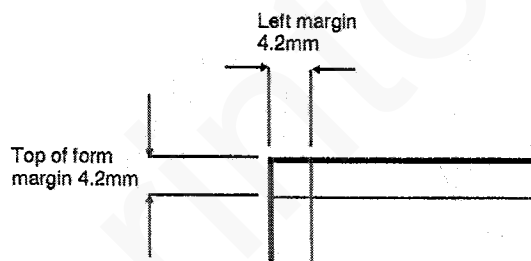

Figure 2. Measuring left and top margins
7. (Figure 2) Measure the left margin and top of form margin of the test pattern; the left margin should be 4.2mm and the top of form margin should be 4.2mm.
11. (Figure 2) Measure the left margin and top of form margin of the test pattern; the left margin should be 4.2mm and the top of form margin should be 4.2mm.